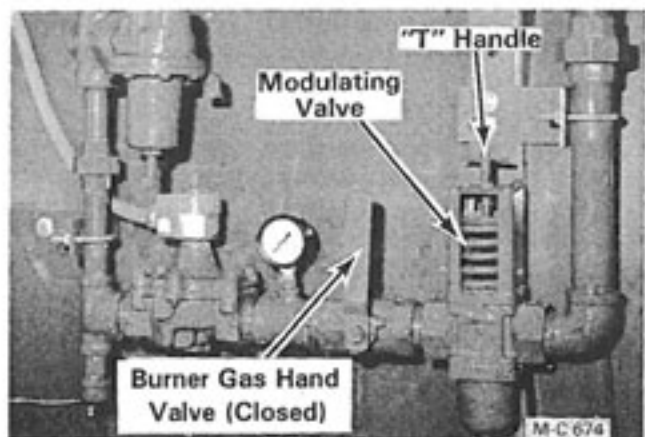

Figure 14 690- 670 or 970
3. Close the gas main hand valve for each burner (handle 90° to the piping), See Figure 14.
4. Check the modulating valve in each burner gas manifold to be sure the "T" handle has not been turned all the way in to the wide open position, see Figure 14. The "T" handle should be halfway between the closed and fully open position.
3. Open burner gas hand valve (Figure 14) ¼ of the way. Flip burner or top burner ignition switch ON. After a (15) second delay the gas valve light will be ON and the burner will light.